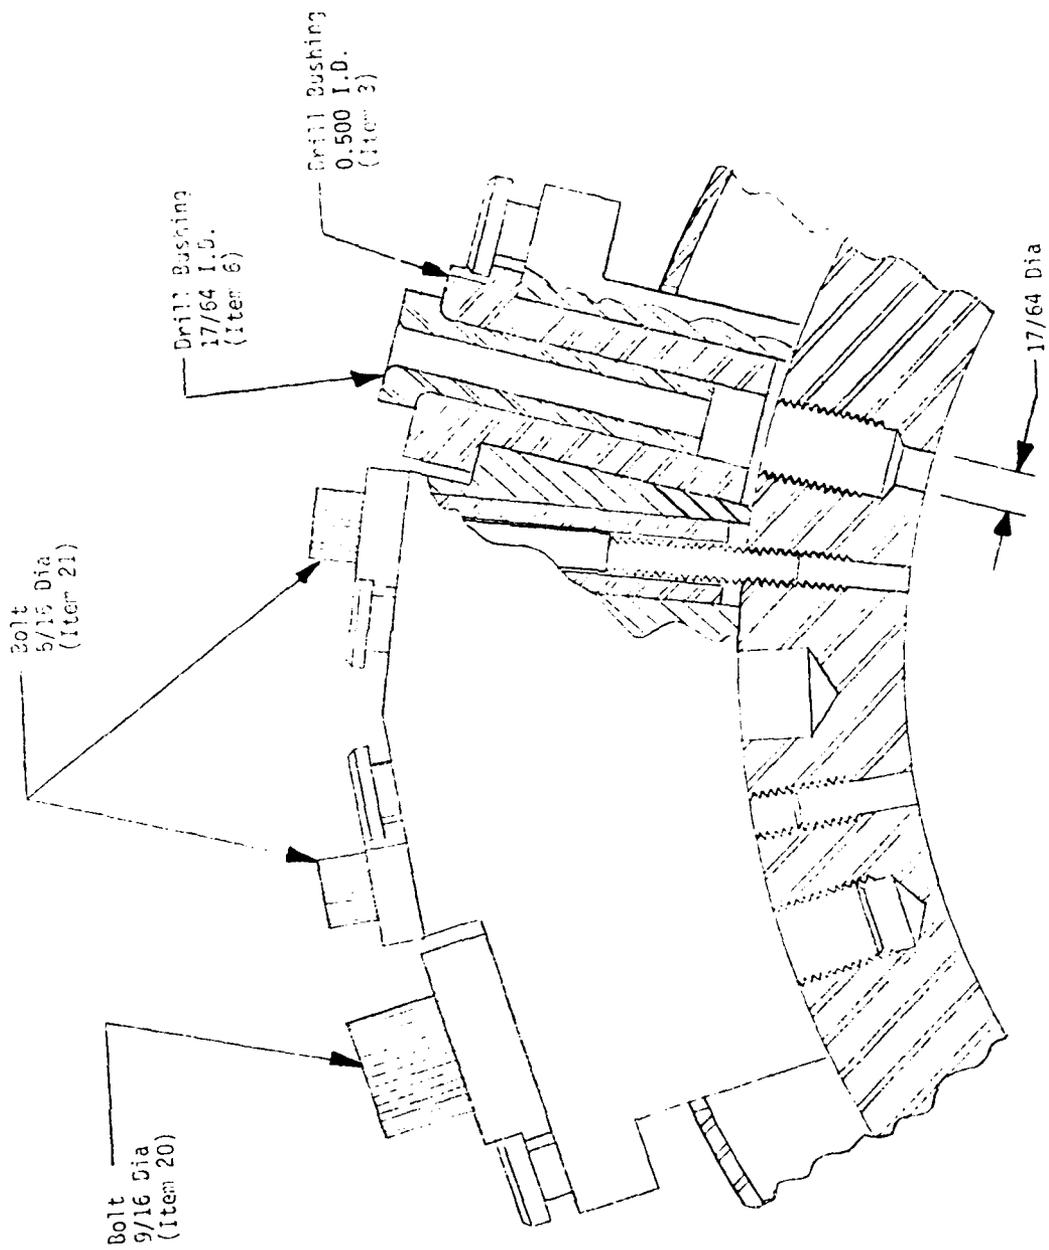

Figure 3. Keensert installation: Drill fixture in place with two bolts and pilot hole drilled in wing mounting hole.
19. Insert the 1/2-inch I.D. drill bushing (Item 3) into the 1-inch-diameter hole in the drill fixture and insert the 17/64-inch I.D. bushing (Item 6), as shown in Figure 3.
20. Use the 17/64-inch-diameter drill bit (Item 11) to drill through the missile center ring, as shown in Figure 3. Use vice grip pliers, as needed, to hold the 17/64-inch I.D. bushing and prevent it from rotating.